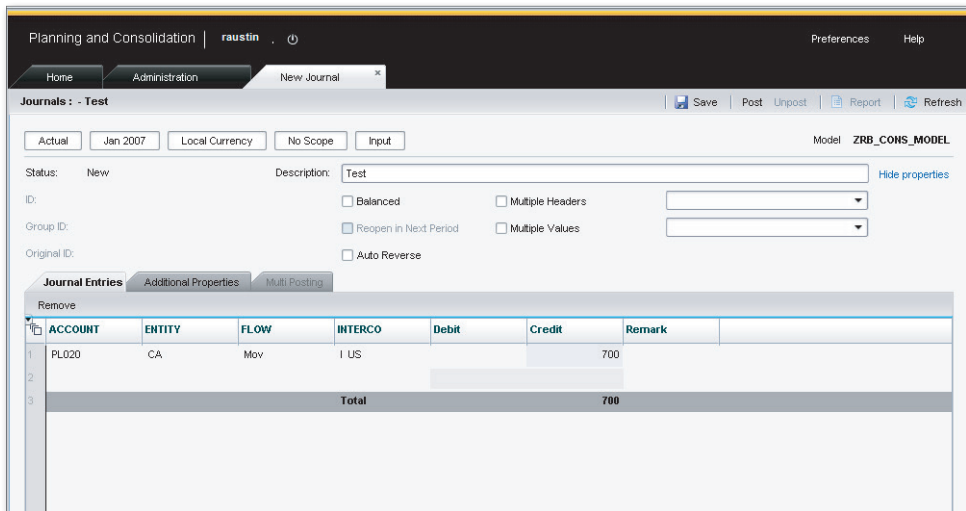

Figure 9.52 Creating a New Journal Entry
3. To create a new journal, click on the NEW menu option. When the option to create a journal is selected from an EPM report, the Web Client interface to create a journal entry is displayed (Figure 9.52). You have two options when creating a journal: